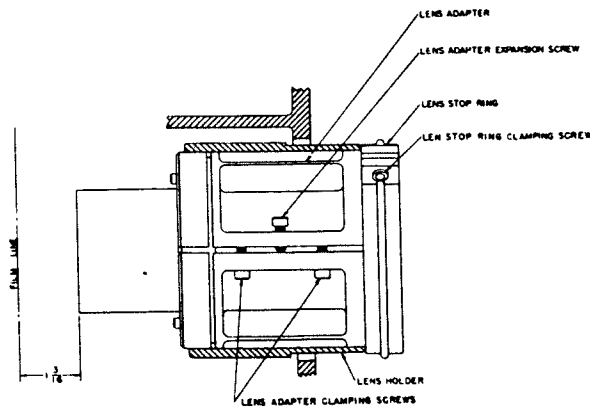

FIGURE 1-15
c. 2-25/32 Inch Diameter Lenses--All Focal Lengths (See figure 1-15.)